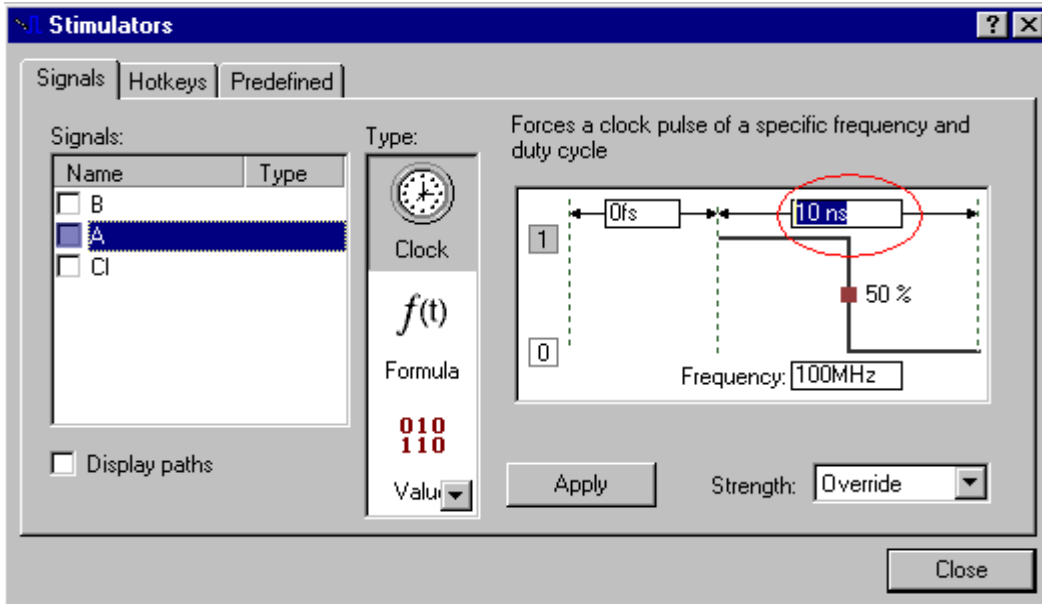

Figure 36
12. With the Stimulators window still opened, you can set additional signals by clicking the signals in the left side of the waveform. Once you have added all three input signals (i.e. A, B, and CI), choose a clock period of 10 ns for A by entering the time in second box from the left at the top of the window (see Figure 36). Click the Apply button.